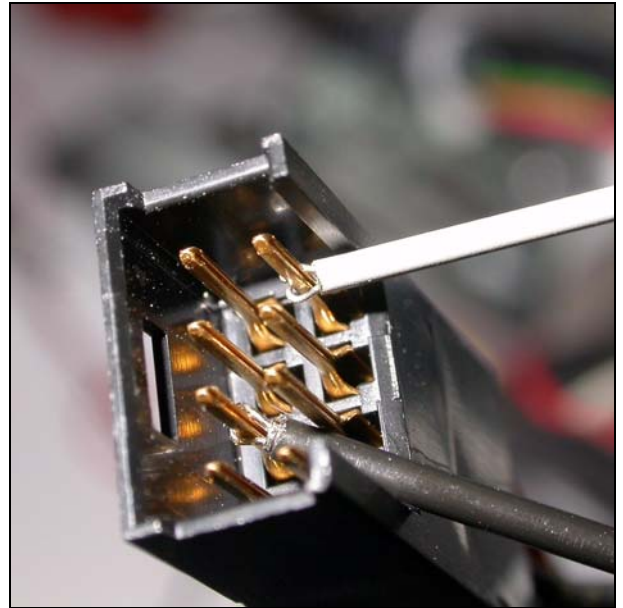

Fig. 5
- Attach an ohmmeter to soldering lugs 1 and 2 of the new potentiometer. As an alternative the corresponding contacts on compression device end of the now disconnected and freely accessible connector X874 can be used (Fig. 5).